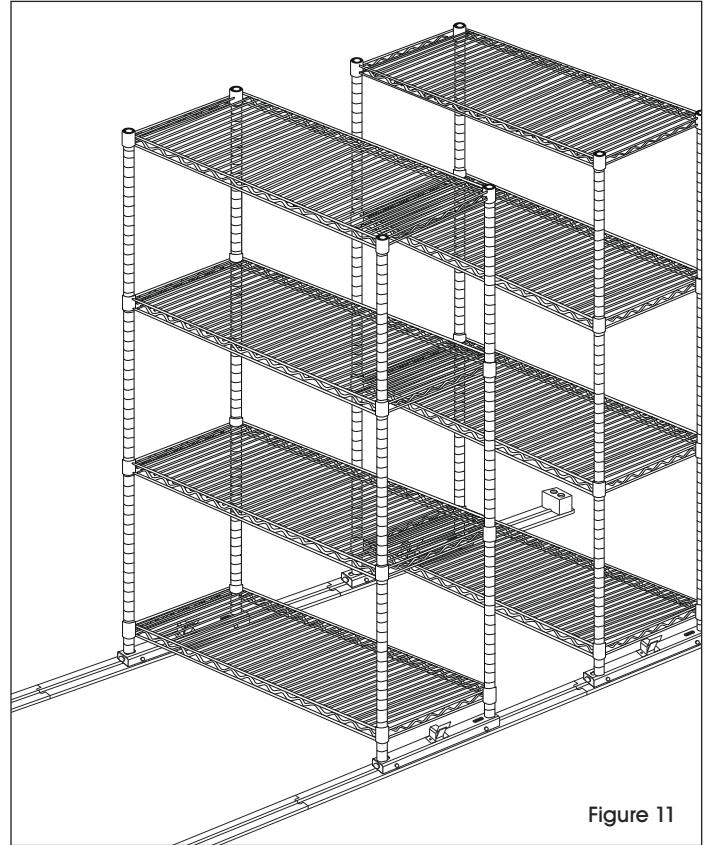

Figure 11
5. Carefully place the shelving units on the pins of the roller assemblies. Pins should fit inside the inserts in the bottoms of the posts. (See Figure 11)